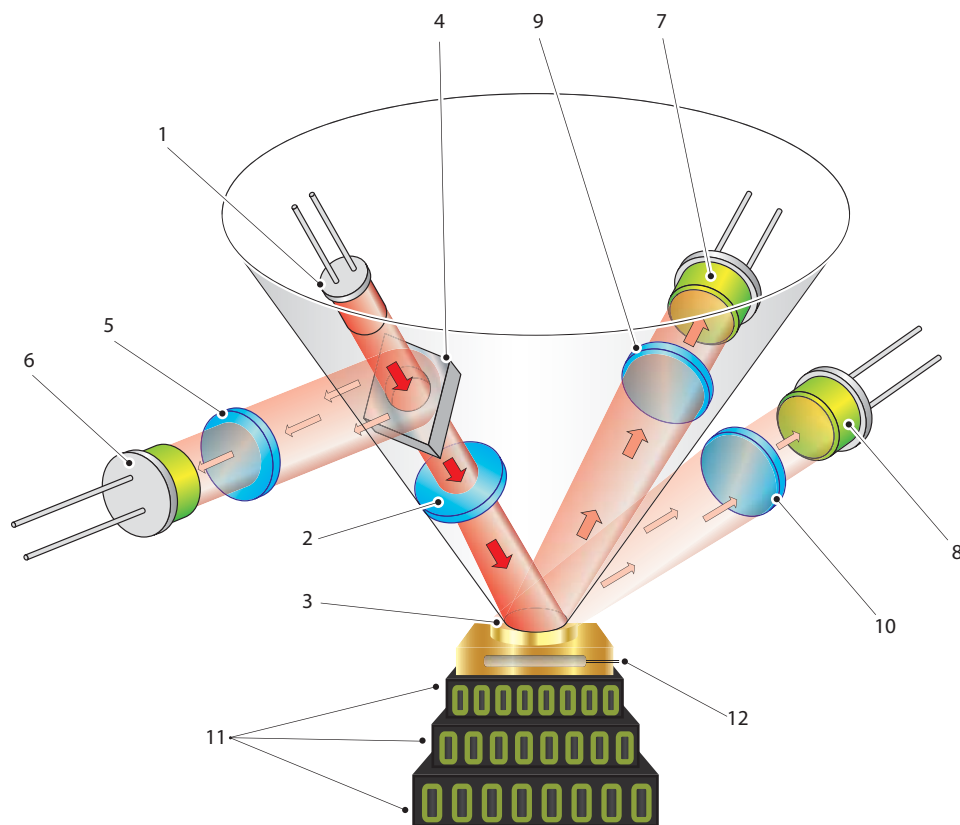

Figure 2 *Operating Principle*
A light emitting diode (1) (see *Figure 2*) provides a light beam of constant intensity which is focused by a lens system (2) to become the incident beam on the mirror surface (3), flooding it with a pool of light.